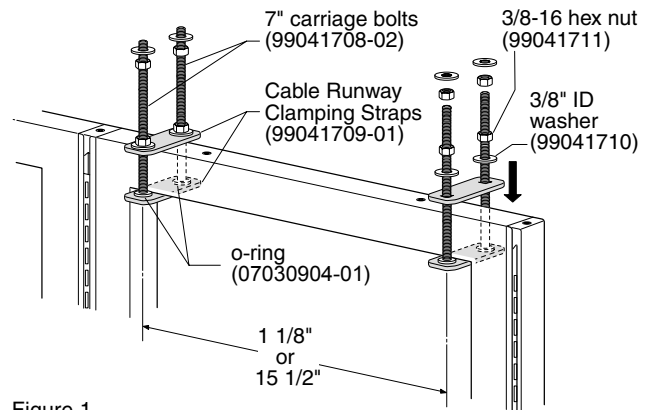

Figure 1
1. Insert a carriage bolt into each of the square holes in the Cable Runway clamping strap. Place a o-ring on each bolt and press it up against the strap. (Figure 1)
2. Place subassembly at the appropriate position around the top tube of a frame so that the strap is against the bottom of the tube. (Figure 1)
3. Insert the carriage bolts through the square holes in a second clamping strap and set strap on top of the tube of the frame. Assemble a 3/8" ID washer and 3/8-16 hex nut onto each carriage bolt and tighten, making sure that the two straps remain parallel. (Figure 1)
4. For 7" U-assembly Kits, assemble a 3/8-16 hex nut and then a 3/8" ID washer to each carriage bolt at the height desired for the Cable Runway Plate. (Figure 1)
6. Repeat as necessary with additional U-assembly Kits. A minimum of two U-assembly Kits is necessary for installing either the In-line Plate or Crossplate. The spacing required between the straps is 1 1/8" for an In-line Plate and 15 1/2" for a Crossplate. (Figure 1)